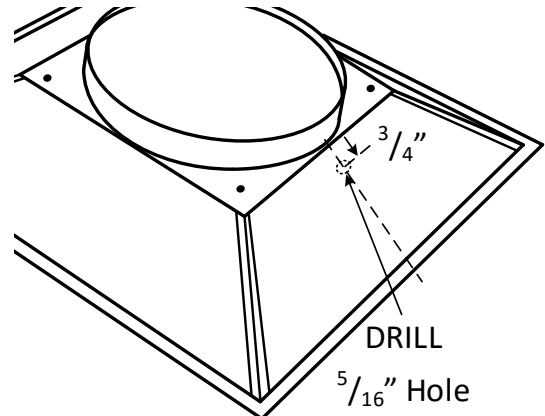

Fig. 1
2. Drill a $\frac{5}{16}$ " hole in the top of the housing on the same side as the thermostat (see Fig. 1 and 2).